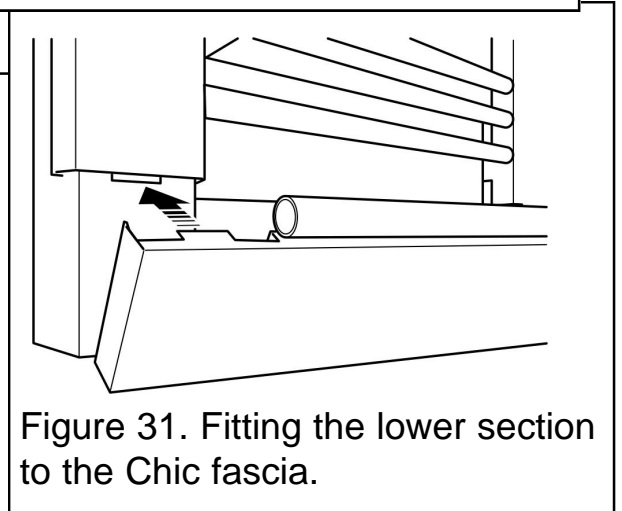

Figure 31. Fitting the lower section to the Chic fascia.
7. The lower section of the fascia has two tabs. Locate these into the slots in the fascia (See figure 31). It may be necessary to re-position the magnets that secure the lower section.